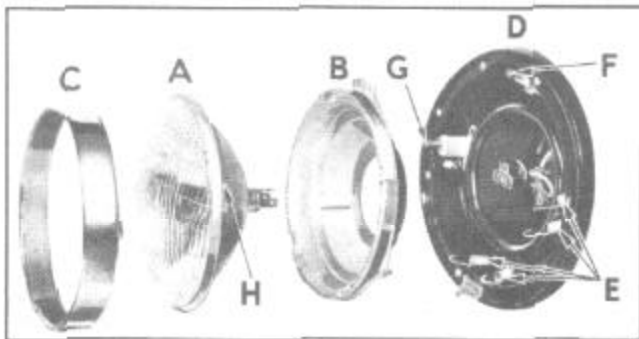

FIGURE 23
The Sealed Beam reflector unit (A) Figure 23 is held to a sub-body (B) by the retainer (C) and three screws. The sub-body (B) forms a ball and socket joint with the lamp housing (D) and is held to the housing by four coil springs (E) plus the vertical adjustment screw (F) and the horizontal adjustment screw (G).